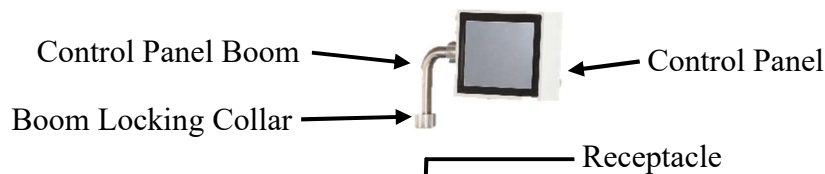

Fig. 9a
2. Slide the Control Panel boom into the receptacle and tighten the knurled locking collar, Fig. 9a.